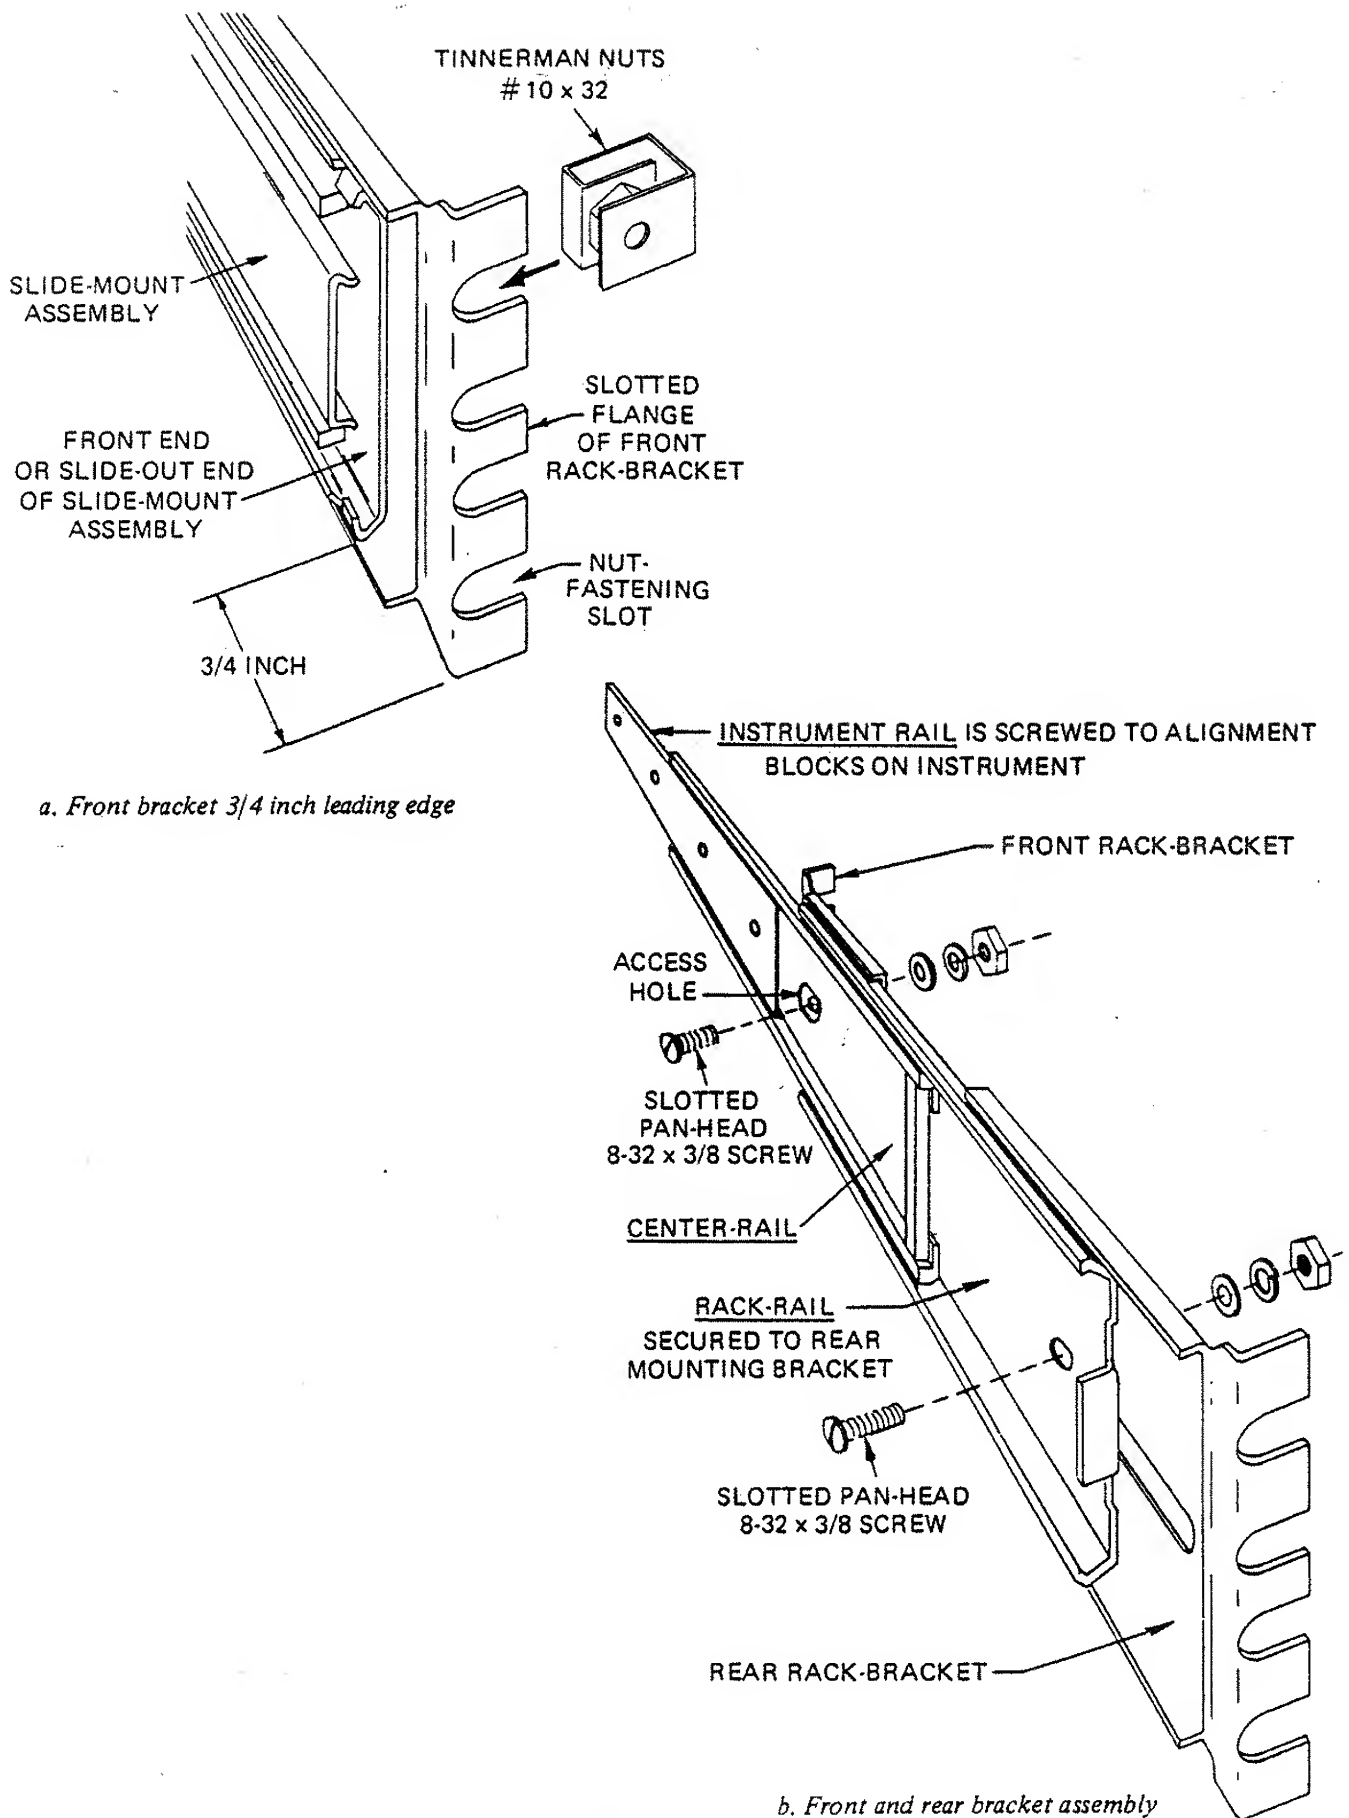

Figure 2.4A/B-Slide-Mount and Bracket Assembly
2.5.3.5 Refer to Figure 2.4A/B. Prepare the triple-rail slide-mount assembly for equipment rack installation. First, note that the instrument-rail and rack-rail holes are accessible either directly or through the enlarged holes in the center-rail (as the assembly is extended or retracted). Complete the following procedure: